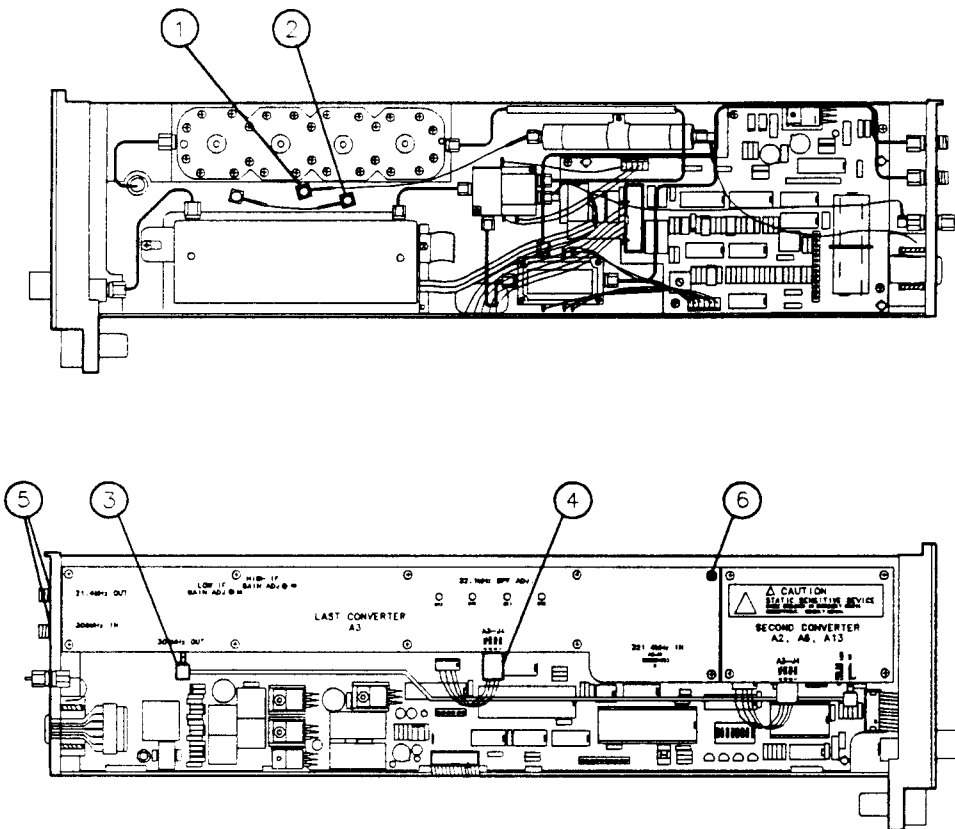

Figure 6-4. A3 Last Converter Replacement
3. Disconnect the W3 coaxial cable on the right side of the module from A3J6 (1) and W4 coaxial cable from A3J5 (2). Both are located on the right side of the module. Remove the SMA lock-nut and the star washer from A3J6 (1) and A3J5 (2). See Figure 6-4.
4. On the left side of the module, remove the W14 coaxial cable from A3J3 (3) and the W15 cable from A3J4 (4).
5. Remove the SMA lock-nuts from rear-panel A3J1 and A3J2 (5).
6. Remove the 10 screws (6) from A3 Last Converter cover.